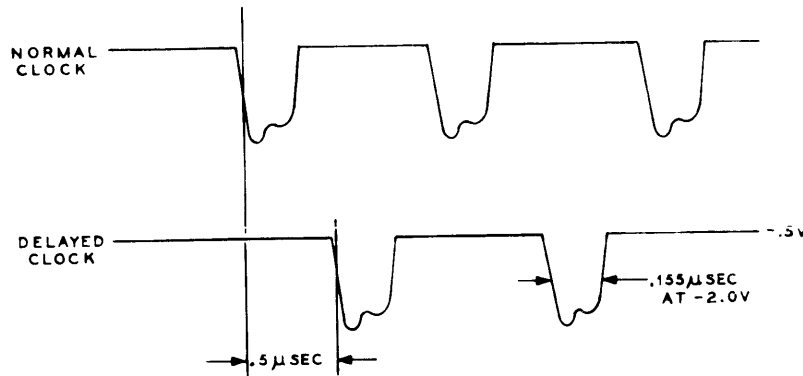

FIGURE 3.5-1 DELAYED CLOCK PULSE
4. Adjust the DRSB (AAC7N2) for .5 usec delay between the leading edges of the normal and the delayed clock. See Figure 3.5-1.